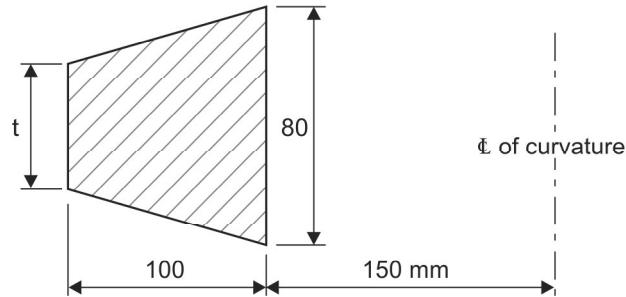

Fig. M1.13
b. Determine the value of t in the cross-section of a curved machine member shown in Fig. M1.13, so that the normal stresses due to bending at extreme fibers are